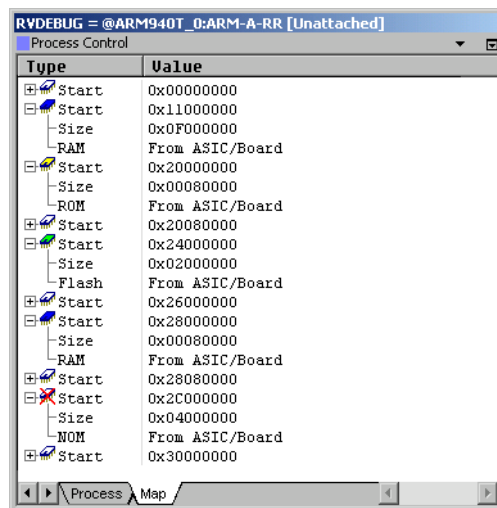

Figure 5-3 Colors in the memory map
5. Click on the plus signs to expand the entries, shown in Figure 5-3 on page 5-9.
For example, if you are working with an ARM architecture-based target, the first entry in the memory map shows Start (see Figure 5-3 on page 5-9) if the memory access rule is defined as Any. If you are using a DSP-based target, the first entry in the map shows the access rule for the type of memory at that location, for example Prog. Colored icons are used to show the type of memory defined, see *Display colors* on page 5-8.
When using the **Map** tab to view the memory map, RealView Debugger uses colored icons to make the display easier to read and to highlight the different memory definitions, shown in the example in Figure 5-3 on page 5-9.